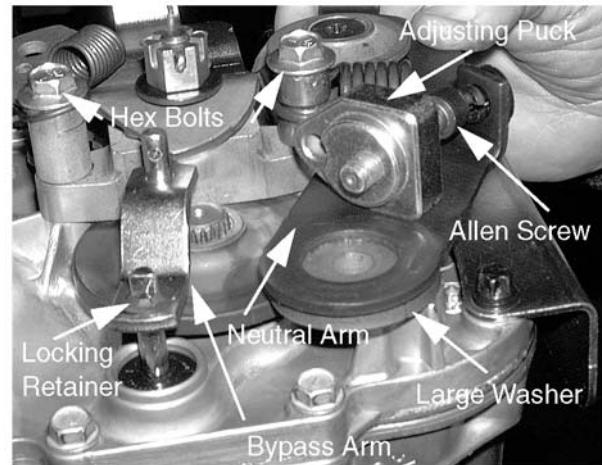

Figure 6-54.
8. Remove the allen head screw securing the adjusting puck, neutral control arm, and large spacer to the housing using a 1/4" allen wrench. See Figure 6-54.